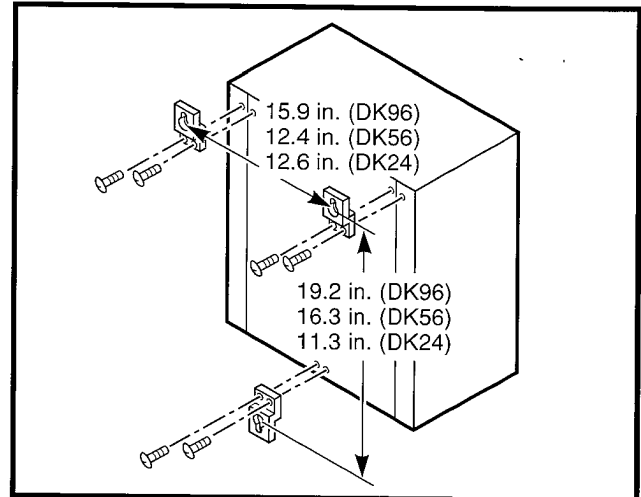

FIGURE 5-1
- 1) Install the three wall-mounting brackets (packed in the shipping carton with the KSU) on the rear of the KSU in both upper corners, and at the bottom center. Secure each bracket to the KSU with the back panel screws and the screws supplied with the brackets (see Figure 5-1).
- 2) Mark the appropriate mounting screw locations on the wall by using Figure 5-1, or hold the KSU against the wall at the selected mounting location. Mark the positions of the holes in the flat part of each mounting bracket where they contact the wall. Mounting screws will be installed at these locations.